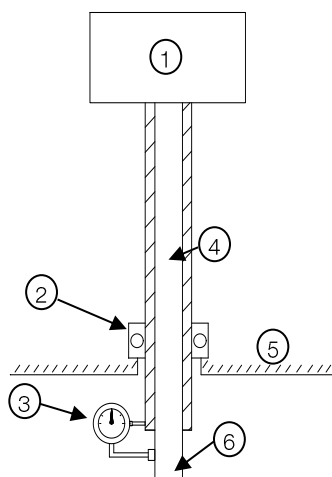

Figure 4.12: Alignment of motors with hollow shaft
1. Fix the dial gauge by its magnetic base to the pump shaft and align it with the base surface (motor shaft), setting the dial gauge to zero (Figure 4.12);
Figure 4.12 legend: